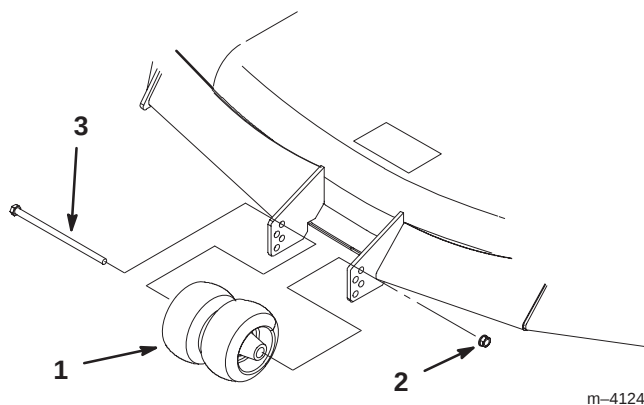

Figure 27
2. After adjusting height-of-cut, remove bolt and nut (Fig. 27).
3. Select hole so gage wheel is positioned to the nearest corresponding height-of-cut desired (Fig. 27).
4. Reinstall the bolt, center rollers and nut (Fig. 27).